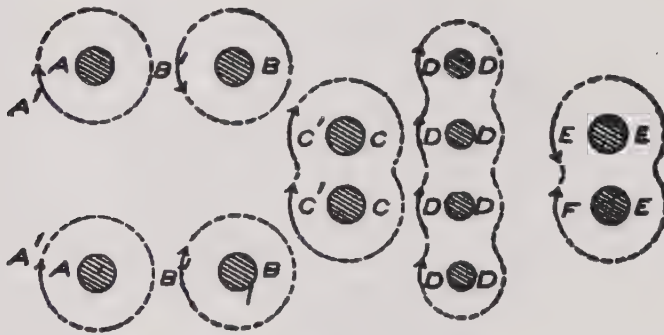

Fig. 132.
*N—S* of the ring *B* than in the space within it. If the ring *B* were made solid, the greater part of the magnetism, in fact, nearly all of it, would be confined to the ring; but if a piece be cut out of one side, as shown in Figure 131, a greater proportion of the lines of force will travel the interior space, and they will increase in number as the piece cut out is increased in size. Should the wire *A* through which the electric current is passing be moved around within the ring *B*, the only effect will be to change the path of the lines of force in the interior space, but those located in the iron will remain practically unchanged. If electric currents are passed through a number of wires, the lines of force surrounding each wire will be in the direction corresponding to the current passing through that particular wire, and if these wires are near each other, the magnetism of one may assist that of the other, or it may act in opposition to it. In Figure 132 a number of cases are represented. Consider first the two wires *A A*, in both of which the electric currents are flowing in the same direction, as is indicated by the arrows *A' A'*. In the two wires *B B* the currents are supposed to be flowing in opposition directions, and as a consequence the lines of force are oppositely directed. The effect of these two cases can be realized by comparing the wires *C C* and *E E*. In these two diagrams the wires are drawn close enough together to show the effect of the lines of force upon one another. In the case *C C*, the two sets of lines can join and flow together around the two wires, forming one single path, but in the case *E E* the lines meet each other end on, and as a result they neutralize each other, hence, if in the two wires the electric currents flow in the same direction, the effect is to increase the magnetic force, if they